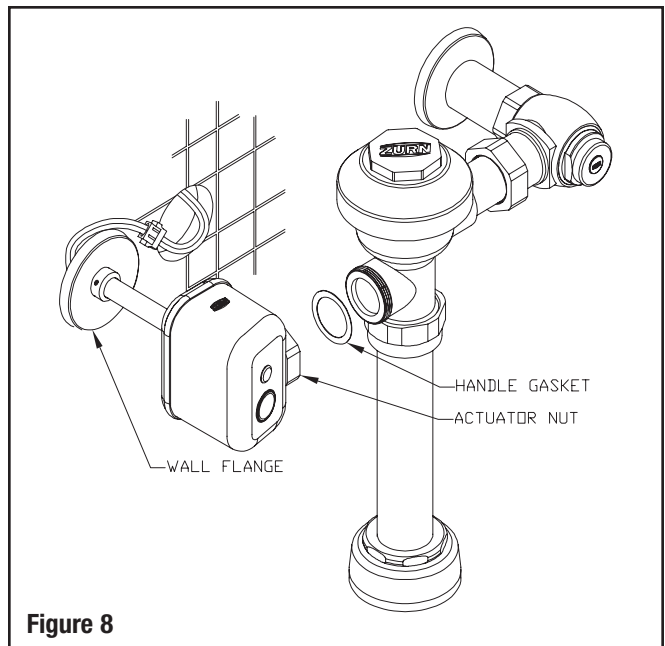

Figure 8
STEP 8 – Actuator Installation (Figure 8)